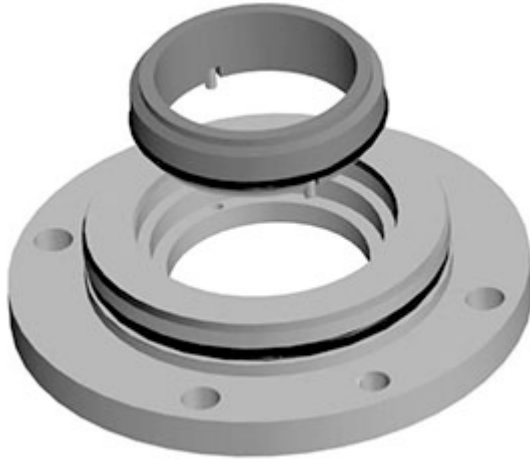

Figure 46: Mechanical seal seat and seal end cover (seal gland) assembly
- Press the stationary mechanical seal seats, with anti-rotational pins inserted and O-ring attached, into both of the seal end covers. Lightly lubricate the Seal end cover to ease assembly. (see Figure 46)